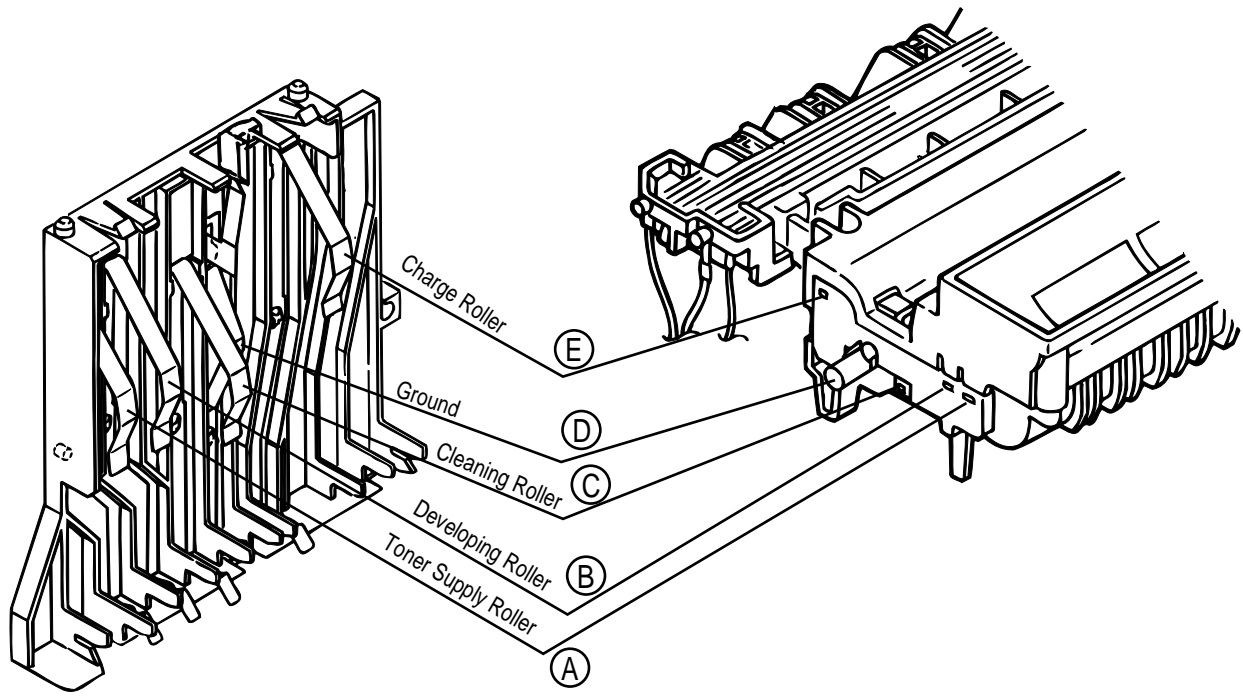

Figure 6-5
① Image are light or blurred a whole.
② Dark background density
- No Is the contact of the cleaning roller of the image drum cartridge contacted with a contact assembly properly? (See Figure 6-5 ③.)
③ Black paper is output.
- Yes Is the contact of the image drum cartridge contacted with the ground contact properly. (See Figure 6-5 ④.)